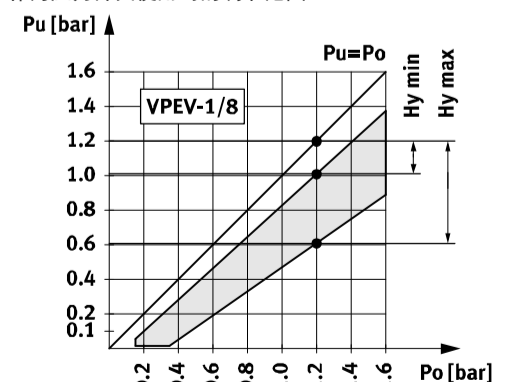

Fig. 2
Switching behaviour of a vacuum switch → Fig. 2
Setting the hysteresis of the VPEV → Fig. 2
7. Pressurize the VPEV with the upper switching pressure p1 (lower switching pressure p2 plus desired hysteresis Hy → Fig. 2). The continuity tester remains unchanged.
通过将压缩空气接口 [5] 的螺丝堵头 [6] 换入真空接口 [8], 则可以将 VPEV 作为压力开关 (特性曲线 → Fig. 2) 使用。